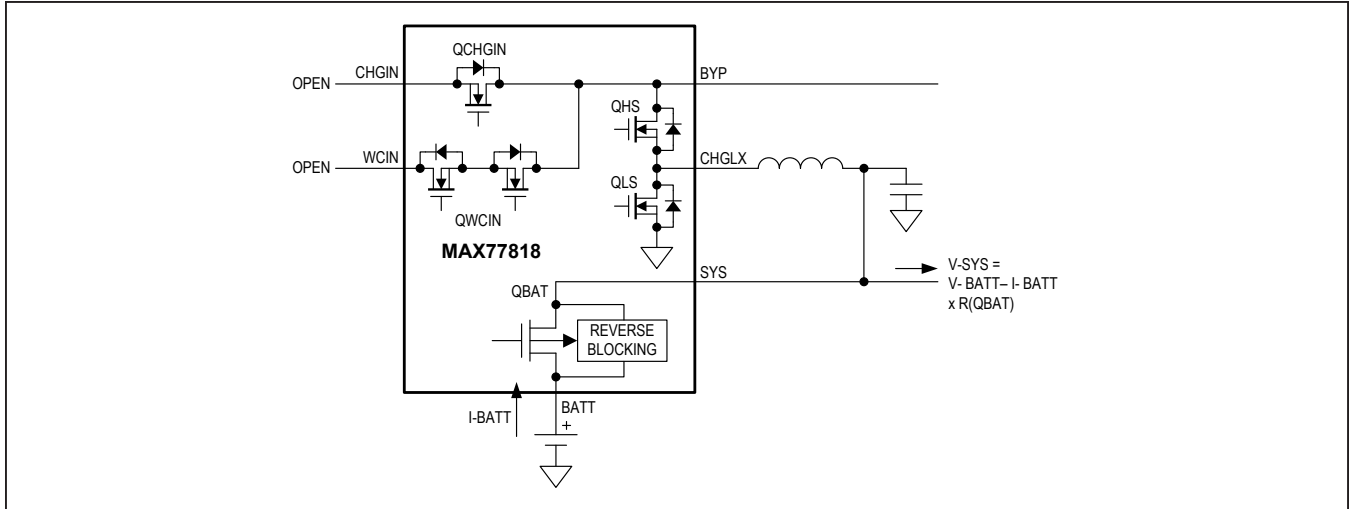

Figure 10. Battery-Only
**Battery Only, MODE = 0x00:** Adapter and wireless charger are invalid, outside the input voltage operating range (QCHGIN = off, QWCIN = off). Battery is connected to power the SYS load (QBAT = on), and boost is ready to power OTG (Boost=standby), see Figure 10. **Battery Only.**